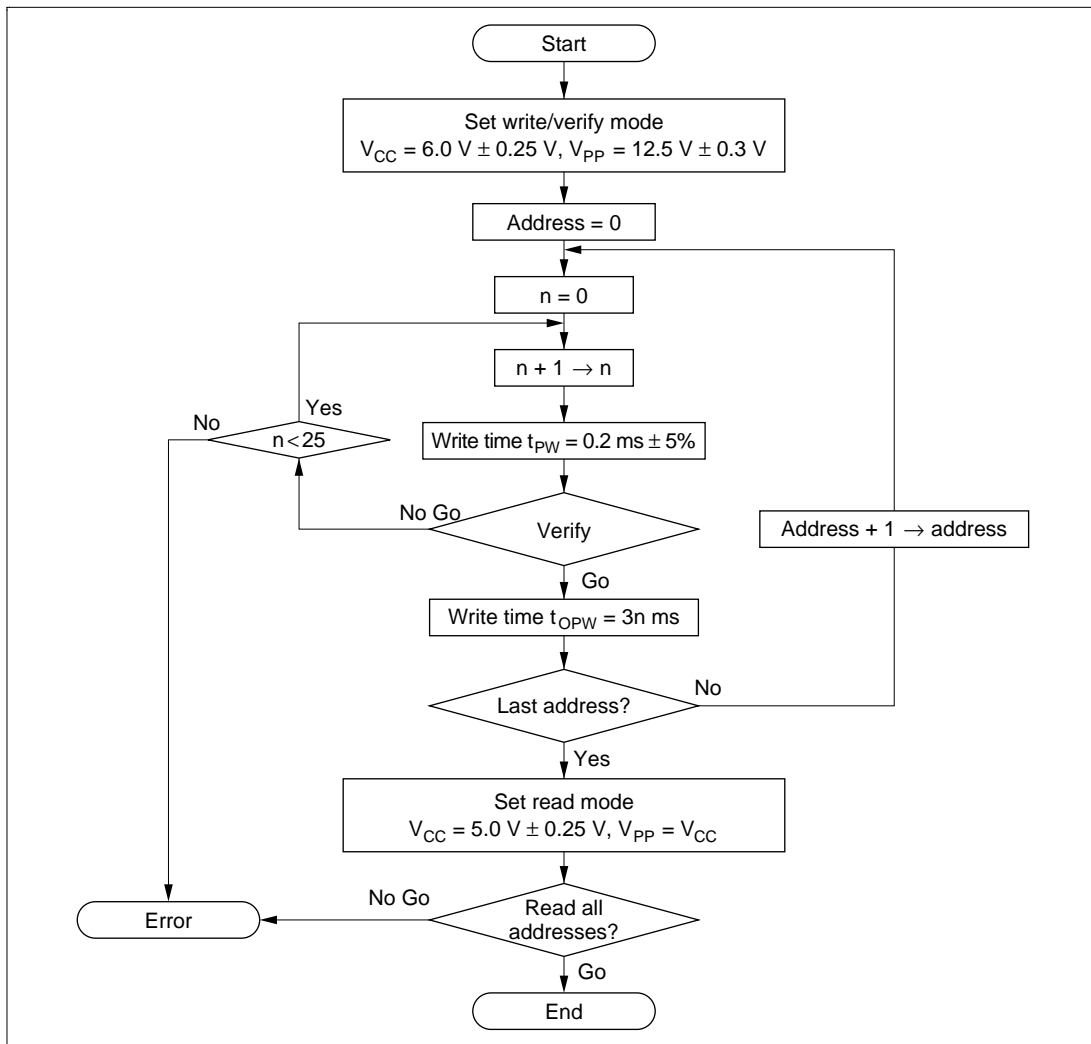

Figure 6-4 High-Speed, High-Reliability Programming Flow Chart
An efficient, high-speed, high-reliability method is available for writing and verifying the PROM data. This method achieves high speed without voltage stress on the device and without lowering the reliability of written data. The basic flow of this high-speed, high-reliability programming method is shown in figure 6-4.
- t_{OPW} is defined by the value given in figure 6-4, High-Speed, High-Reliability Programming Flow Chart.